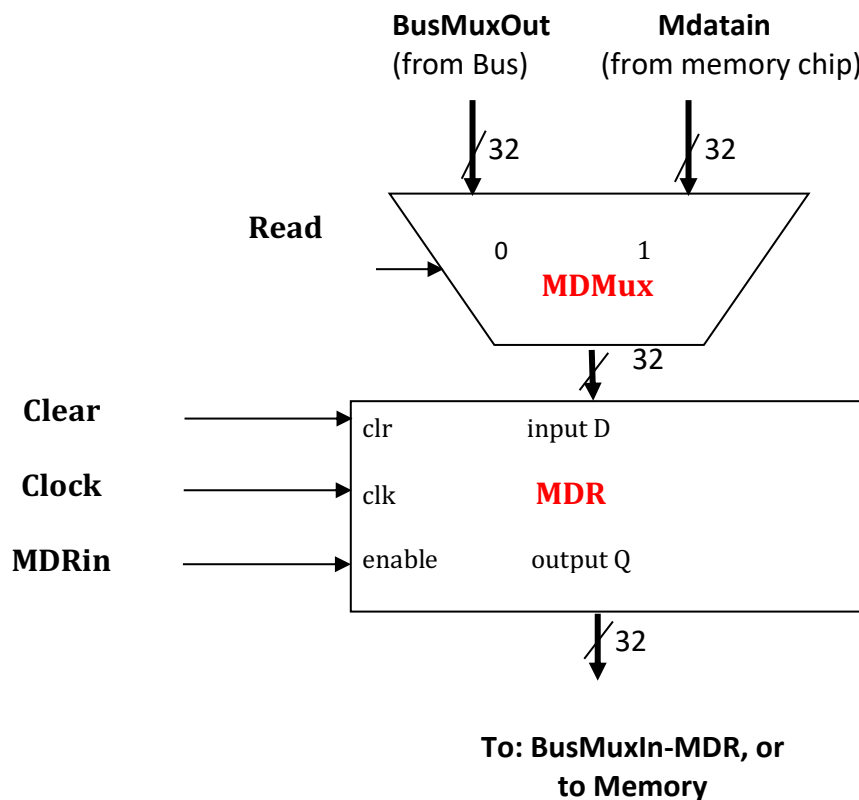

Figure 4: The MDR unit
Memory Data Register: The *Memory Data Register (MDR)* is different from the other registers in the sense that it has two input sources and two output sources. Figure 4 presents how *MDR* is connected to the memory bus, and to the internal bus. The inputs to the *MDR* comes form the memory unit (**Mdatain**) or from the Bus (**BusMuxOut**). Data is stored in the *MDR* using the synchronous *Clock* signal and the *MDRin* control signal. The *MDR* contents can be written into the memory or drive the Bus.
3. Design the MDR register (Figure 4) and connect it to the BUS. Leave the rest of the Memory Subsystem (connection to the memory module) for Phase 2.